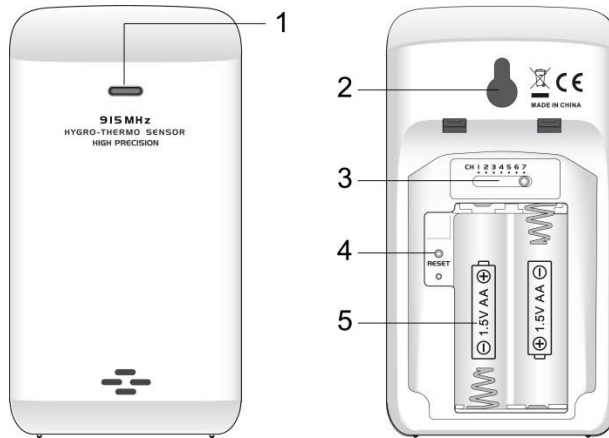

Figure 2
2. If you have more than one sensor, make sure each sensor is on a different channel (reference Figure 2).